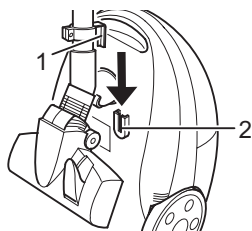

Fig. 17
- For **storage**, you can hang the stow-away hook (Fig. 17/1) into the stow-away hook mount (Fig. 17/2) below on the cylinder vacuum cleaner.